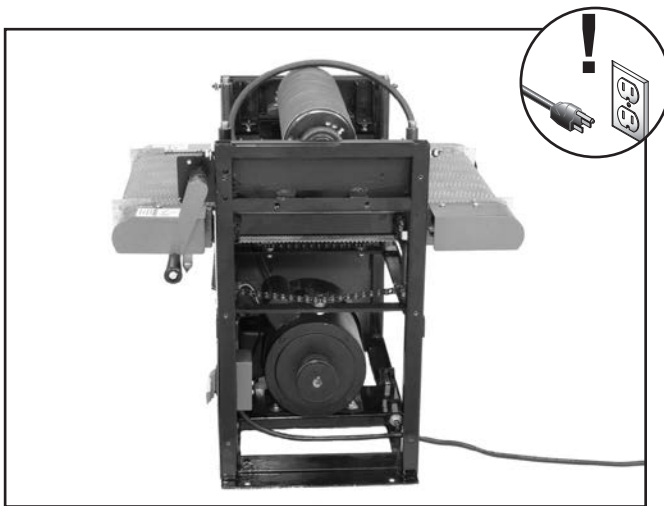

Figure 43. Drum sander disassembled to **Step 8**.
- Loosen the hex bolts securing the motor bracket to the frame, raise the motor and remove the V-belt from the motor pulley (see **Page 31** for help). The drum sander should now look similar to **Figure 43**.